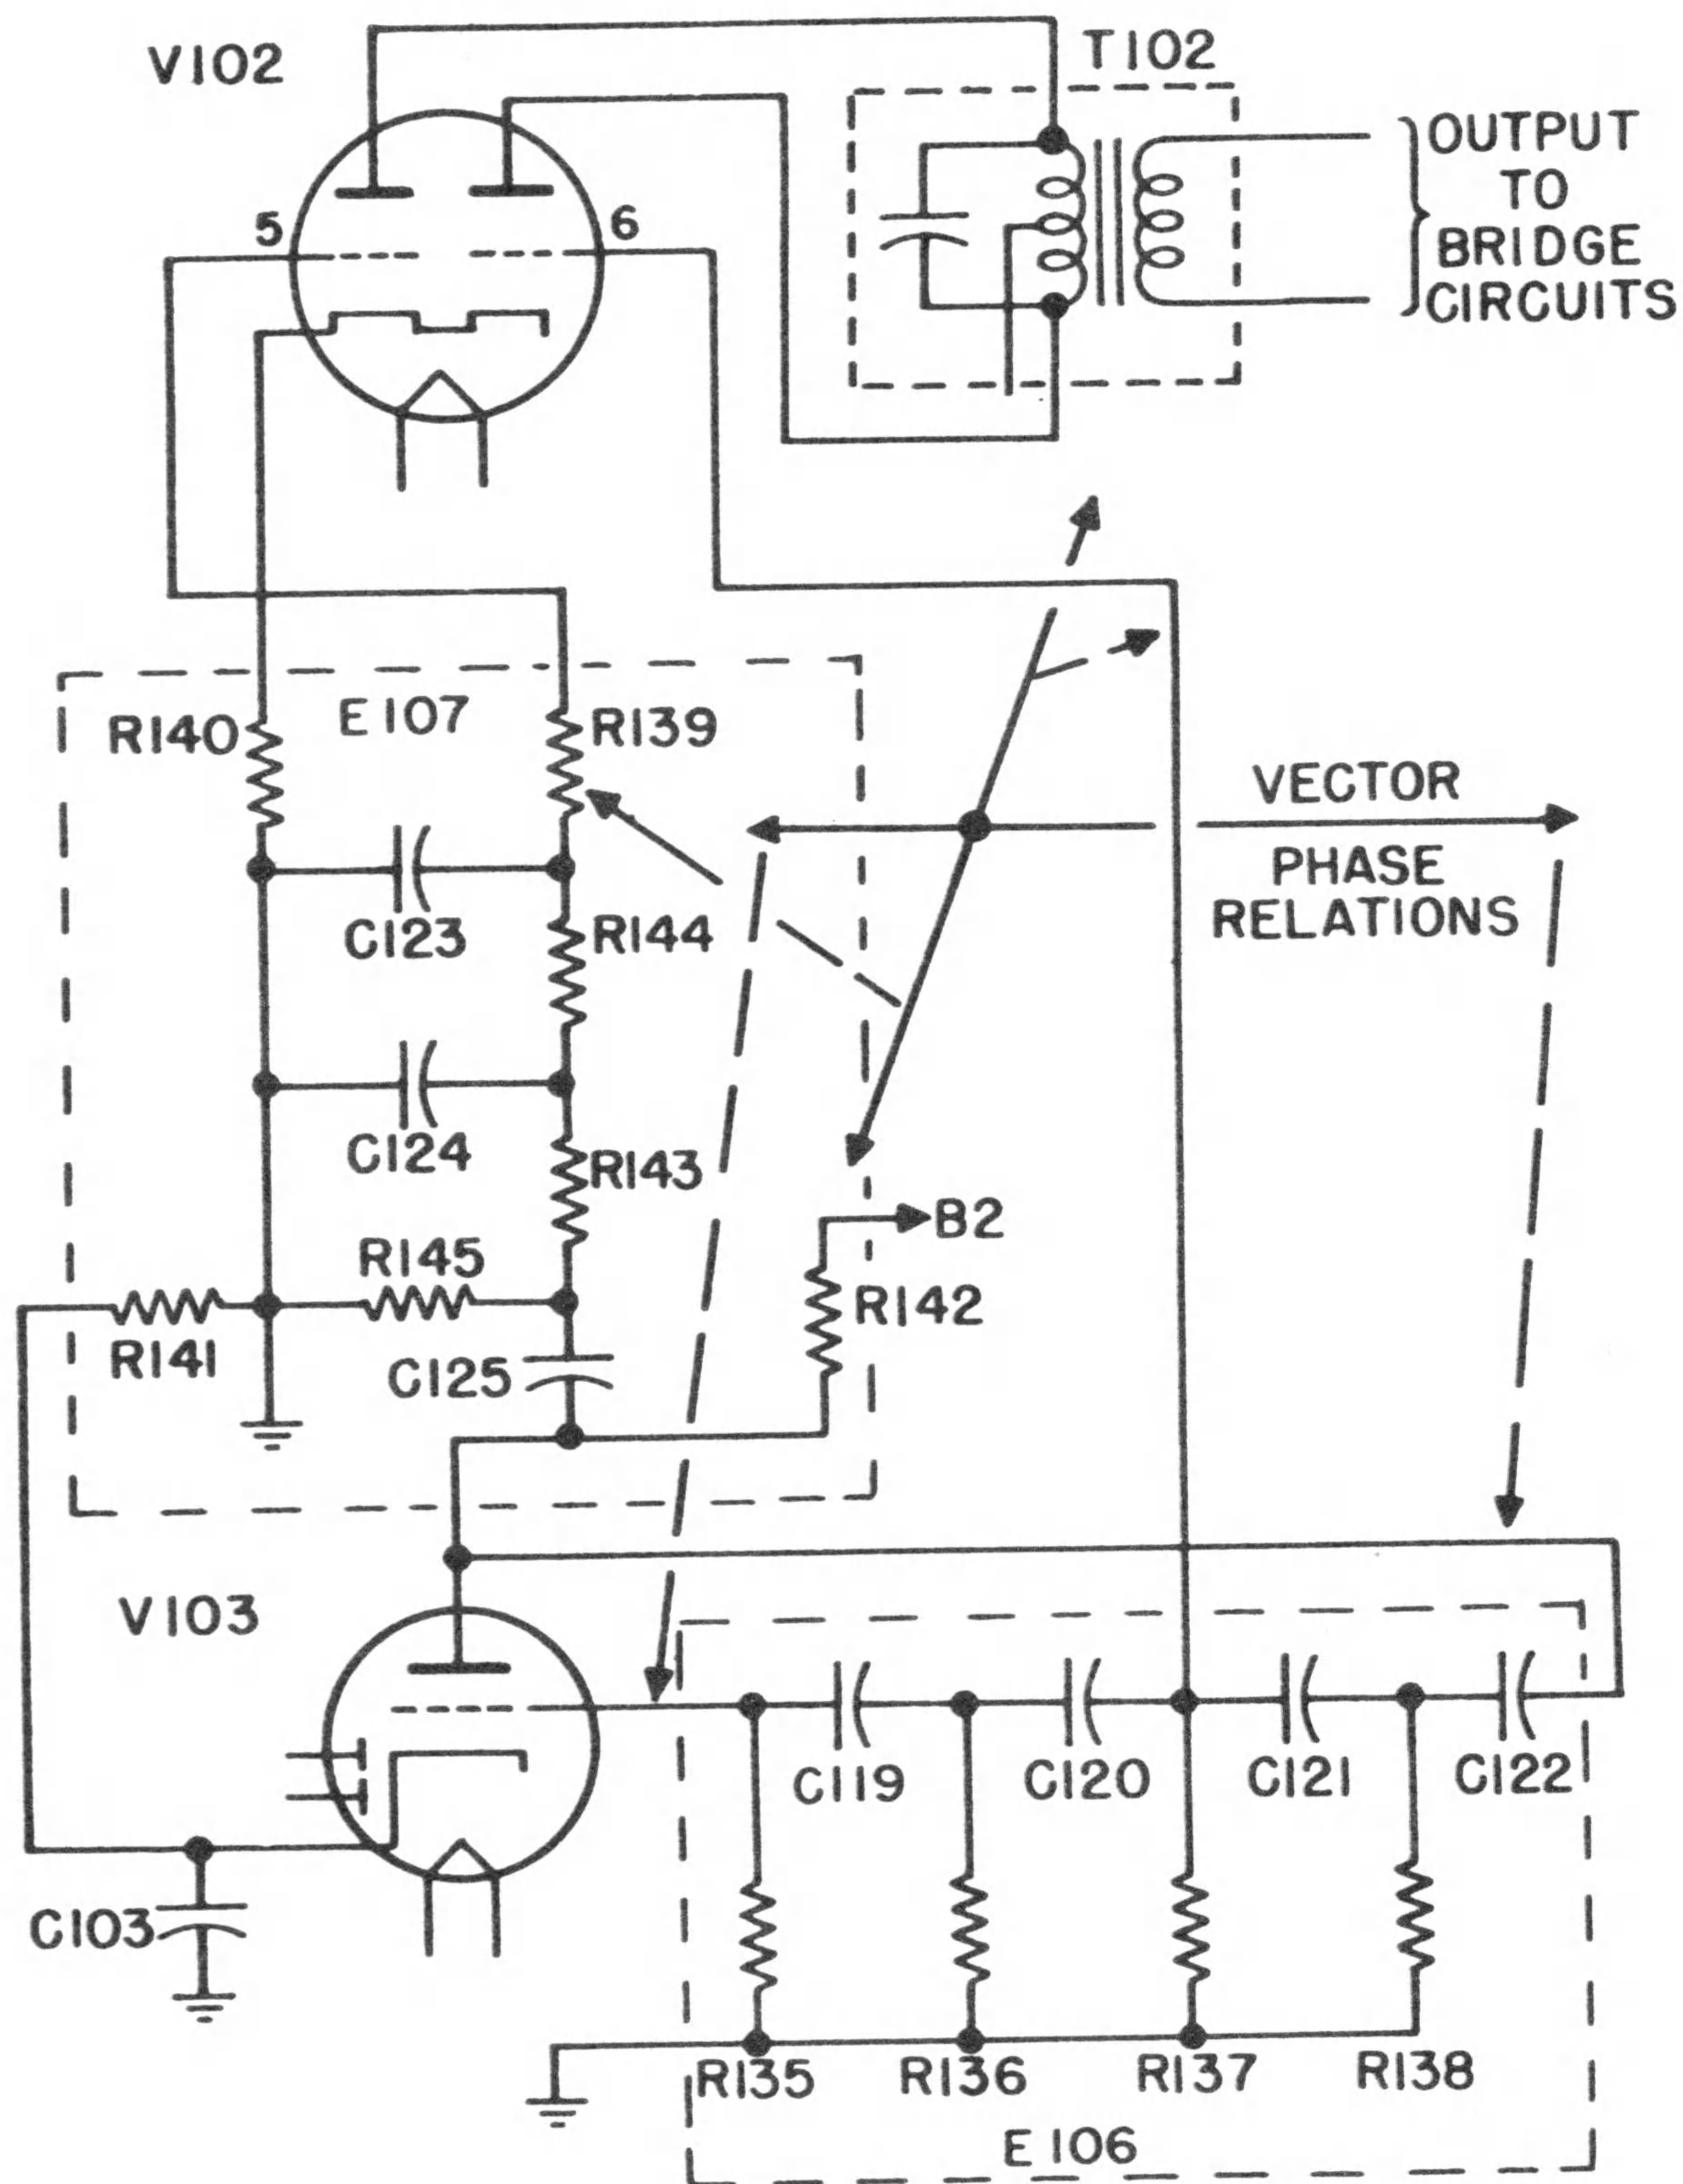

Figure 2-2. 1000 Cycle Generator.
b. In practice, the generator must have special properties such as low admittance to ground, in order that the accuracy will be preserved when using high ratios of A to B. It must also have adequate output of good waveform, since, in some applications, the bridge cannot be balanced simultaneously at the fundamental and a harmonic. The method used in generating the 1000 cycle test current used in the ZM-11/U Bridge is shown in Figure 2-2. Vacuum tube V103 is the 1000 cycle oscillator, V102 amplifies the output thereof and transformer T102 connects the amplifier output to the bridge circuits.